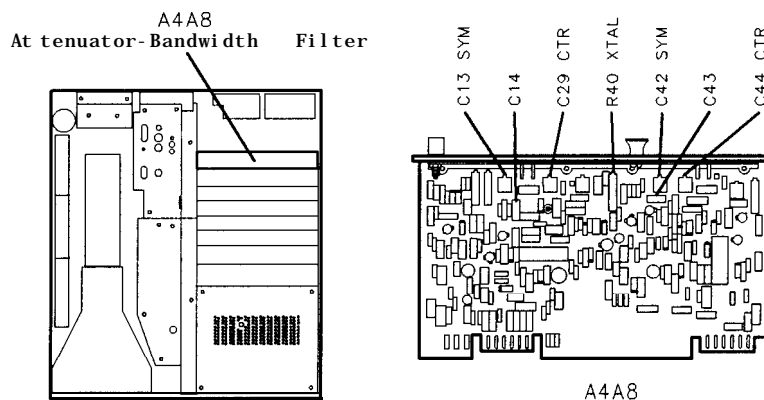

Figure 3-44.
37. Adjust A4A8C44 CTR to center signal on center graticule line. Adjust A4A8C42 SYM for best symmetry of signal. See Figure 3-44 for location of adjustments. If unable to adjust A4A8C42 SYM for satisfactory signal symmetry, increase or decrease value of A4A8C43. Refer to Table 3-3 for range of values.
39. Adjust A4A8C29 CTR to center signal on center graticule line. Adjust A4A8C13 SYM for best symmetry of signal. See Figure 3-44 for location of adjustments. If unable to adjust A4A8C13 SYM for satisfactory signal symmetry, increase or decrease value of A4A8C14. Refer to Table 3-3 for range of values.
42. Adjust A4A8R40 XTAL to align markers on display. MARKER A level should indicate 1.00 X. See Figure 3-44 for location of adjustment.